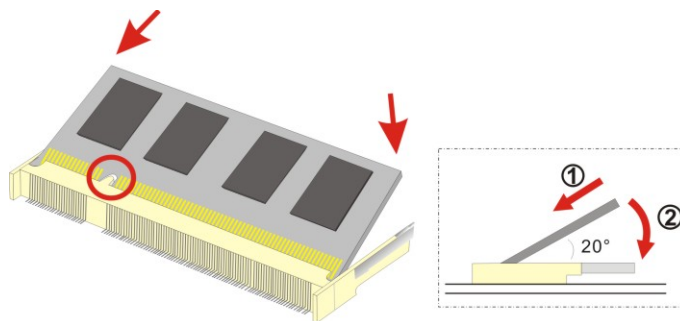

Figure 4-3: SO-DIMM Installation
To install a SO-DIMM into a SO-DIMM socket, please follow the steps below and refer to **Figure 4-3**.
- Step 3:** **Insert the SO-DIMM.** Push the SO-DIMM chip into the socket at an angle. (See **Figure 4-3**)
- Step 4:** **Open the SO-DIMM socket arms.** Gently pull the arms of the SO-DIMM socket out and push the rear of the SO-DIMM down. (See **Figure 4-3**)